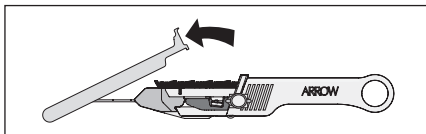

Figure 2
- Remove needle guard by lifting the top tab of the needle guard (refer to Figure 2).